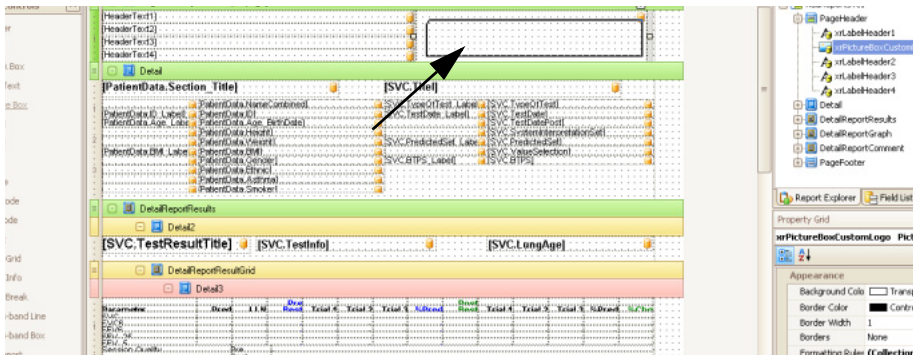

Fig. 10-4: Positioning the frame
- Insert the frame in the appropriate position (Fig. 10-4:).